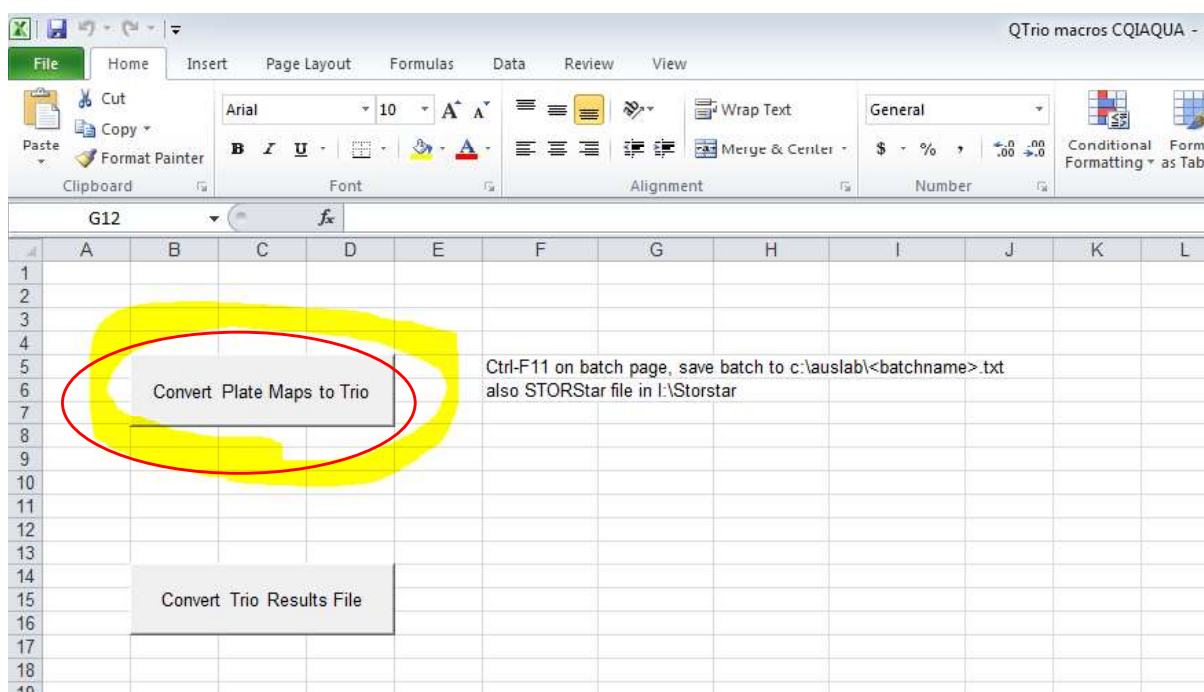

Figure 1 Quantifiler® Trio Macro to generate plate maps and results files.
- b. Open up the macro "**QTrio macros CQIAQUA**" in I:\Macro and click **CONVERT PLATE MAPS TO TRIO** (Figure 1).